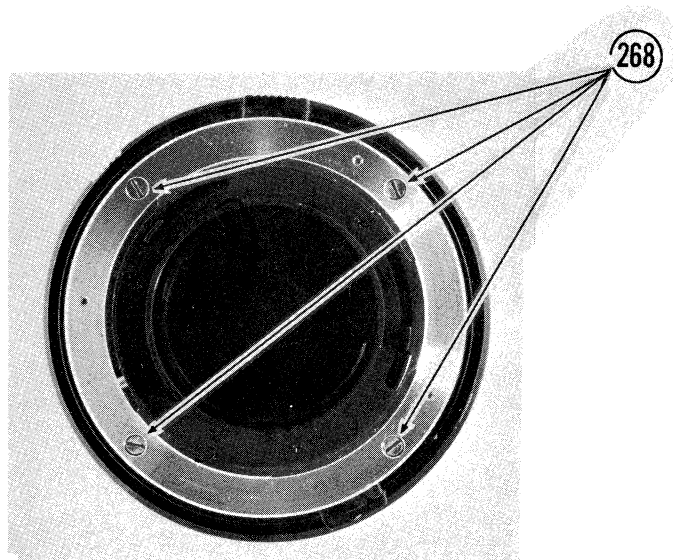

Fig. 50
- 5.6.1.5 Remove four mount screws (268) and remove Olympus Mount from Mount Frame. (Fig. 50)